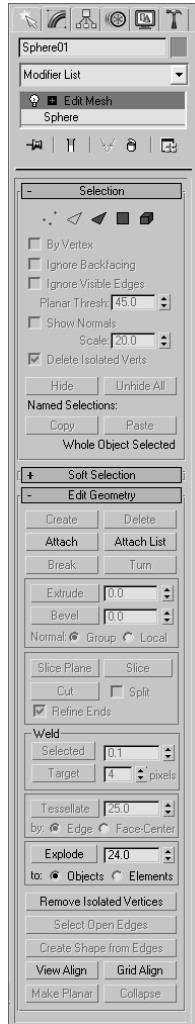
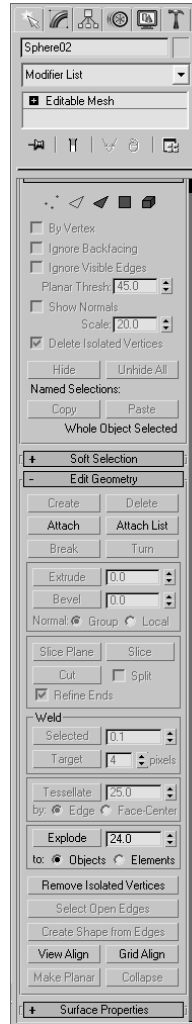

Figure 4.17
Figure 4.18
4. Take turns clicking back and forth between the two spheres. You should notice very little difference in the toolsets in the Modify panel. Figure 4.17 shows the Modify panel for the sphere with the Edit Mesh modifier, and Figure 4.18 shows the Modify panel for the Editable Mesh sphere.